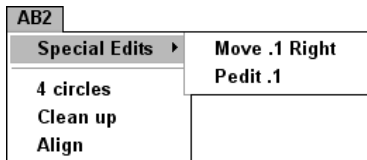

Figure 33-8: The AB2 menu, including the submenu
9. Choose the **Menu Bar** tab. Choose **AB2** from the **Menu Group** drop-down list. In the **Menu Bar** list, choose **Window** so that your menu will be inserted just before the **Window** menu. Choose **Insert**. AutoCAD inserts the menu. Choose **Close**. The menu should look like Figure 33-8. Notice the submenu and the dividing line.